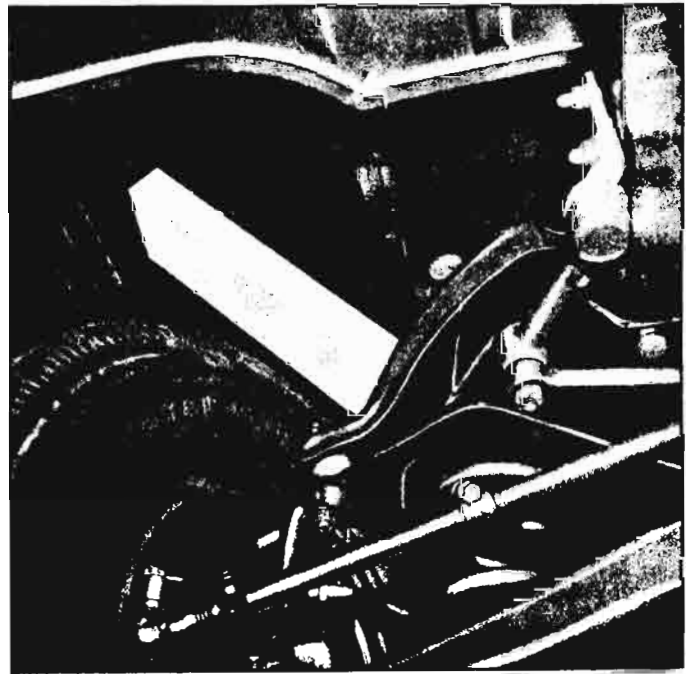

Fig. 3-56—Position of 2x4—Spring Removal
3. Position a $16\frac{1}{4}''$ piece of 2 x 4 as shown in Figure 3-56; be sure upper corner of 2 x 4 is placed behind re-enforcing channel toward inside of vehicle.